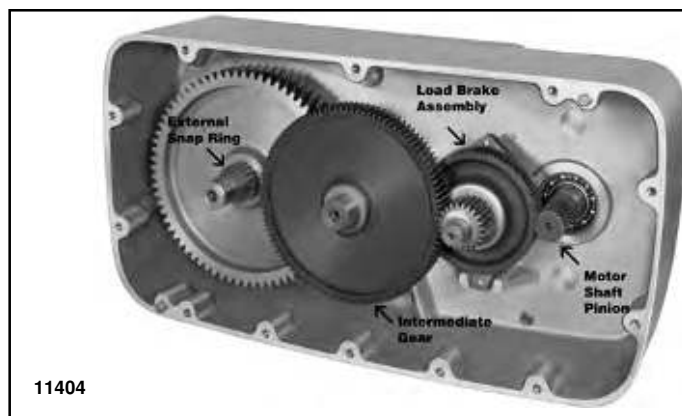

Figure 5-3. View of Gearcase – Cover Removed
a. The mechanical load brake and gearing may be inspected and serviced with hoist suspended. To do so, remove lower block and wire rope, drain oil from gearcase, remove 12 hex head bolts and lockwashers holding gearcase cover, and pull cover from gearcase (Figure 5-3).